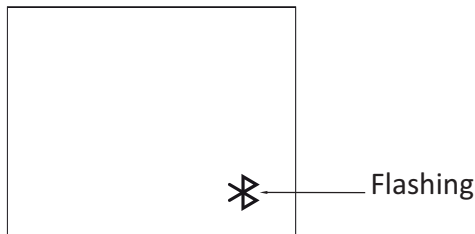

Fig. 13
2. To initiate pairing mode on the appliance press and hold the 'M' button for two seconds. The LCD screen will go blank with the exception of the Bluetooth logo flashing in the bottom right hand corner, See **Fig.13**. This indicates that the device is advertising to be paired with the **Remo** app.